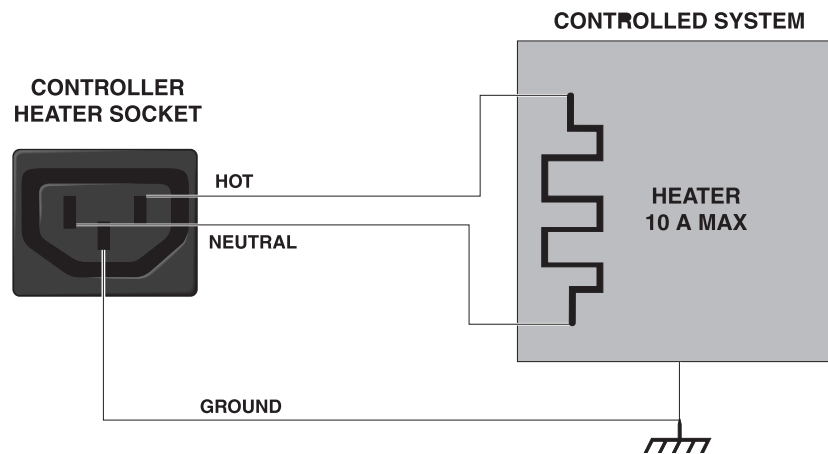
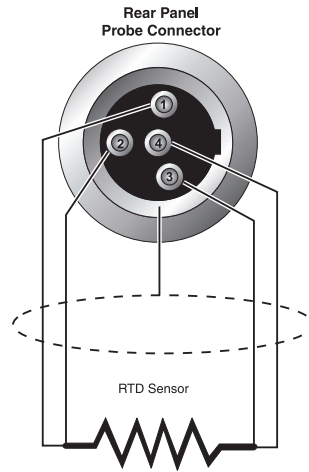

Figure 1. Controller to Heater Wiring
Figure 2. RTD Probe Wiring
Connect the heater to the back of the controller into the socket labeled "HEATER". Be sure the heater cable is adequate for the amount of current required and that the heater is wired correctly and safely. See Figure 1 for heater wiring. If applicable, connect the stirring device to the back of the controller in the socket labeled "STIRRER". The stirrer outlet wiring is the same as the heater outlet shown in Figure 1.
Connect the control probe into the socket at the back of the controller labeled "PROBE" (see Figure 2). Insert the probe into the bath or system to be controlled. For best stability and response time the control probe should be located in close proximity to the heater. Observe the maximum temperature rating of the probe and be careful it is not exceeded.
(2) The heater socket is the source of controlled power for the system heater.
This power is switched by the solid-state relay to maintain a constant temperature. The voltage is the same as that supplied through the power cord (A). For a diagram of how to wire the heater to the controller see Figure 1. An extra line cord has been included with the unit to make this connection.
(3) The stirrer socket is an auxiliary power socket for a stirring device for the bath. The voltage is the same as supplied through the mains supply to the power cord. An extra line cord is included with the unit to make this connection.
(4) The control probe is plugged in here. Normally the probe is a DIN 43760 type RTD. Optionally a thermistor probe with a much more limited temperature range but better stability is available. The controller must be internally configured to work with one type of probe or the other. Probes or additional connectors for use with the user's own probes are available from Hart. For assistance in wiring an RTD to the controller see Figure 2. A probe connector has been provided.